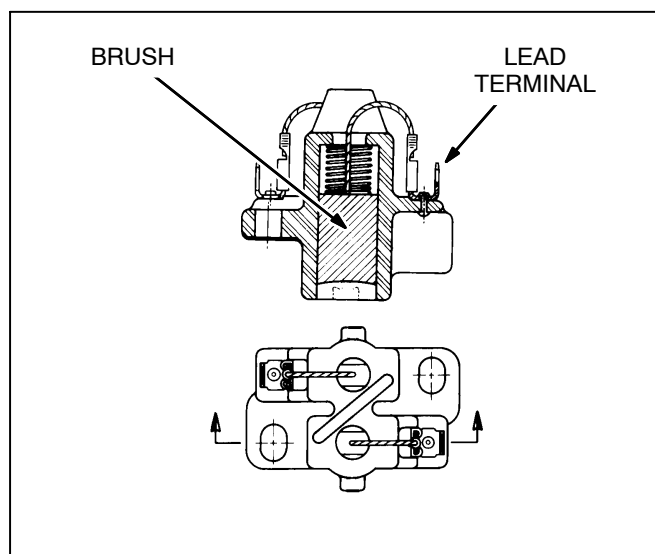

FIGURE 10-2. BRUSH BLOCK ASSEMBLY
**Access:** Remove the brush block access cover (Figure 10-2) for access to the brush block assembly and slip rings.